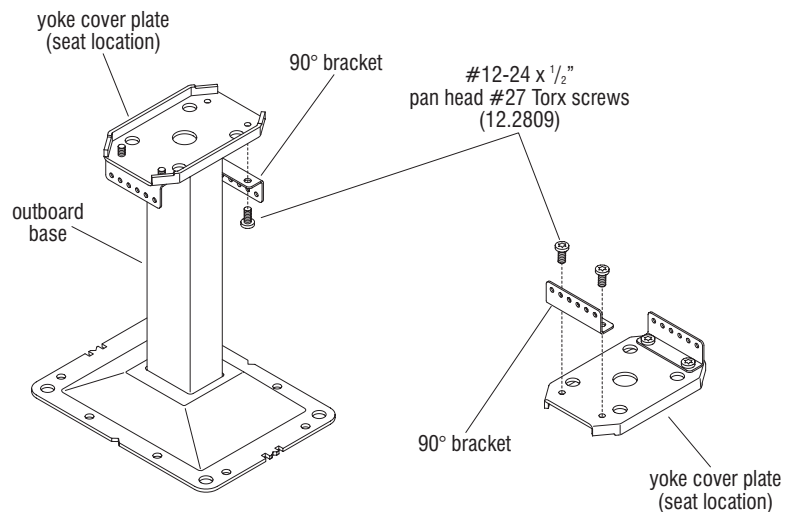

Figure 2
6. Attach 90° brackets to the bottom of yoke cover plates or the yoke plates of outboard bases as illustrated, using two #12-24 x 1/2" pan head #27 Torx drive screws. Torque screws to 50 in/lbs to secure. (Figure 2).